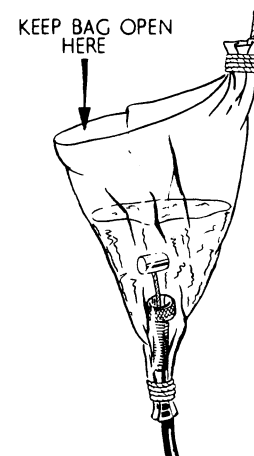

**Fig. 14-13** Pointed end grease gun, showing close-up view of special point
**Greasing Joints.** There are two tricks to lubricating the straight type of grease fittings found on many motorcycles. The easiest approach is to buy a special pointed end for your grease gun (Fig. 14-13). You simply probe the small hole in the grease nipple with this point and push the plunger.